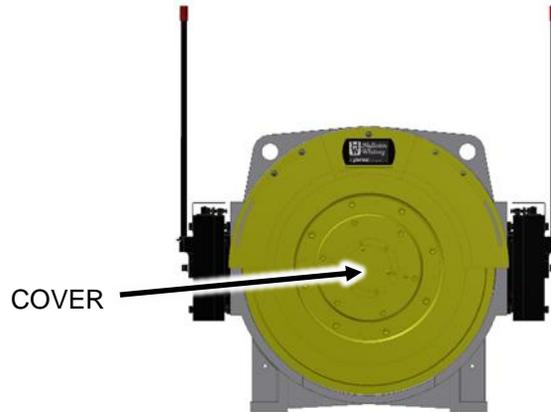

Figure 39
9. Replace the cover shown in Figure 39.